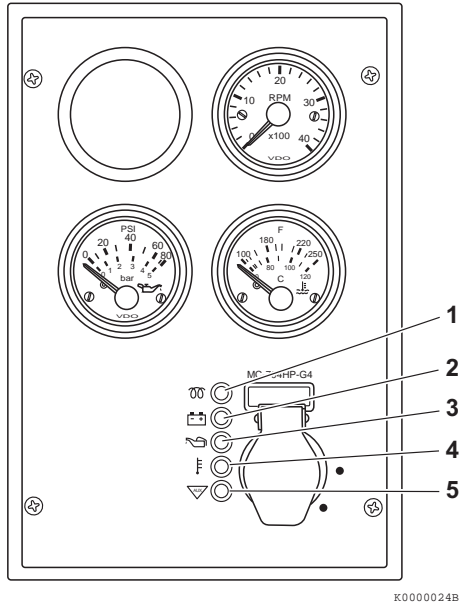
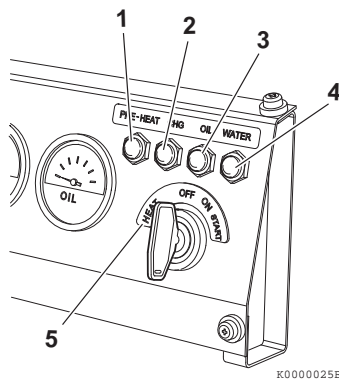

Figure 9
Figure 10
HEAT indicator (Figure 9, (1)) - For the "ON-glow" type of the starter switch that does not have the HEAT position in the counterclockwise direction of the ON position, by turning the key to the ON position, the preheating function automatically activates, and the HEAT indicator (**Figure 9, (1)**) lights up. 4 seconds after the indicator turns off is when to start the operation. In the case of 3CE1 (DI), the indicator goes off after 15 seconds. *Please refer to HEAT on page 28 about the HEAT indicator of the electronic controlled engine.*
HEAT indicator (Figure 10, (1)) - When cold starting the engine, in order to activate the glow plug, the starter key needs to be turned to the HEAT position (left side of OFF) (**Figure 10, (5)**). By turning the key to the HEAT position and keeping it at that position, the HEAT indicator (**Figure 10, (1)**) lights up, and after 4 seconds, it turns off. The time the indicator turns off is when to start the operation. In the case of 3CE1 (DI), the indicator goes off after 15 seconds.
Battery charge (Figure 9, (2)) or (Figure 10, (2)) - When the key is turned to the ON position, the charge indicator lights up. When the engine is started, the alternator (or dynamo) generates power, and the battery starts charging. Then the indicator goes off. This indicator will also come on when there is a problem in the charging system. This indicator does not tell you the charging timing (when the battery is low). *See Troubleshooting Chart on page 90.*
Engine oil pressure (Figure 9, (3)) or (Figure 10, (3)) - This indicator will come on if the engine oil pressure is below or exceeds normal limits. *See Troubleshooting Chart on page 90.*
Engine coolant temperature (Figure 9, (4)) or (Figure 10, (4)) - This indicator will come on if the engine coolant temperature exceeds normal limits. *See Troubleshooting Chart on page 90.*
Auxiliary (Figure 9, (5)) - Used for special applications.